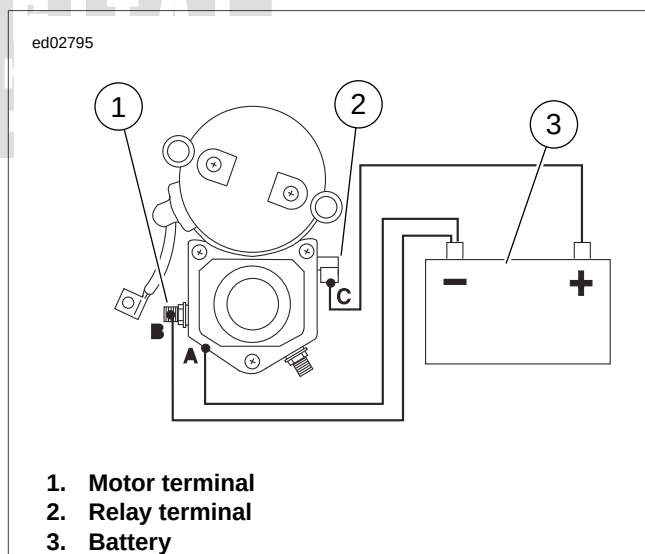

Figure 1-8. Pull-In Test
Do not disassemble solenoid. Before testing, disconnect field wire from motor terminal as shown in Figure 1-8.
1. See Figure 1-8. Using a 12 volt battery, connect three separate test leads as follows: